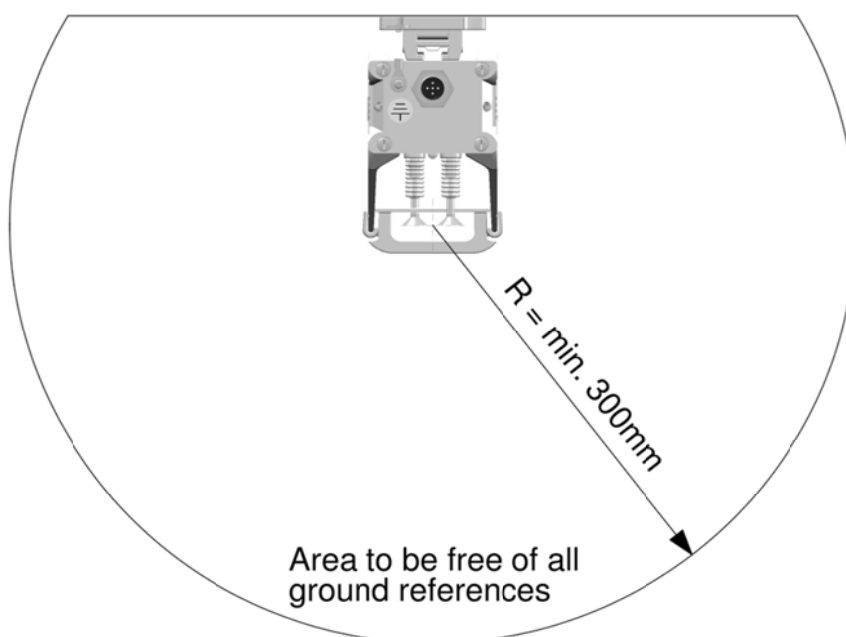

Figure 6
- **For minimum distances, see Figure 6.**